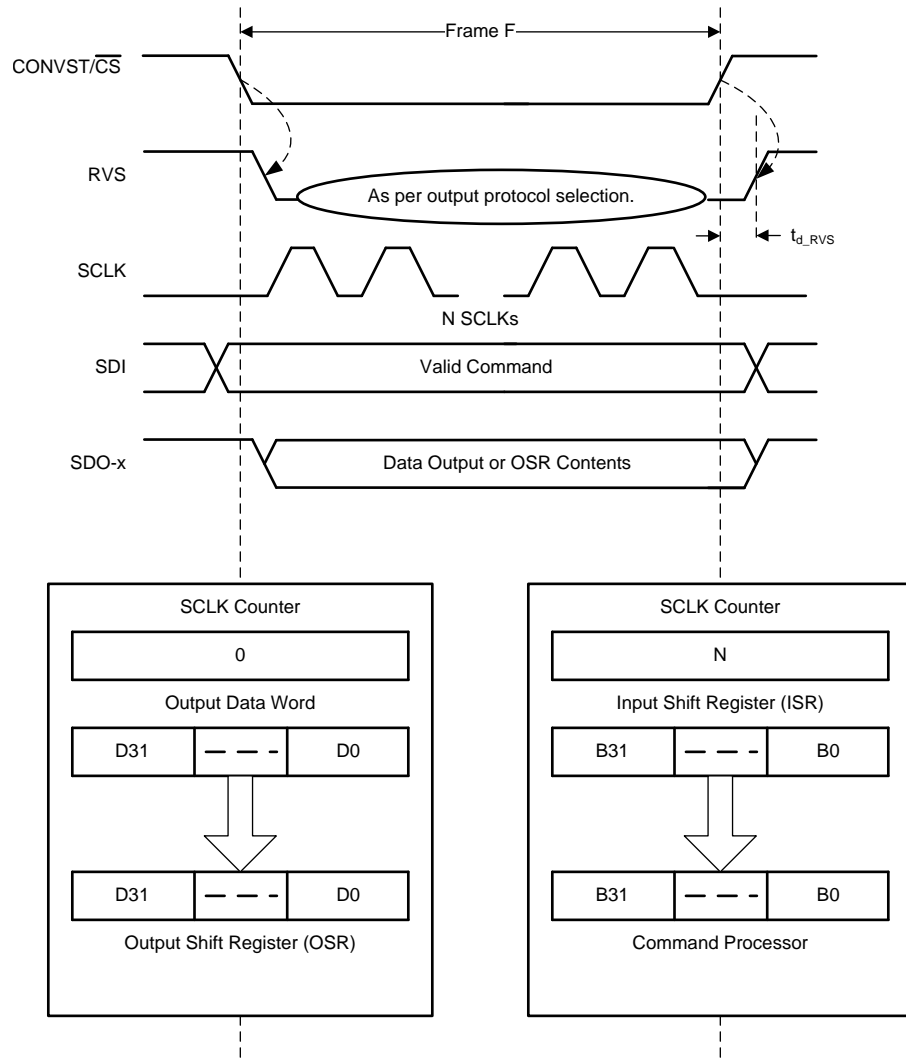

Figure 75. Data Transfer Frame
A data transfer frame between the device and the host controller begins at the falling edge of the CONVST/ $\overline{\text{CS}}$ pin and ends when the device starts conversion at the subsequent rising edge. The host controller can initiate a data transfer frame by bringing the CONVST/ $\overline{\text{CS}}$ signal low (as shown in Figure 75) after the end of the CONV phase, as described in the CONV State section.
- The device takes control of the data bus. As illustrated in Figure 75, the contents of the output data word are loaded into the 32-bit output shift register (OSR).
- As illustrated in Figure 75, the contents of the input shift register are transferred to the command processor for decoding and further action.